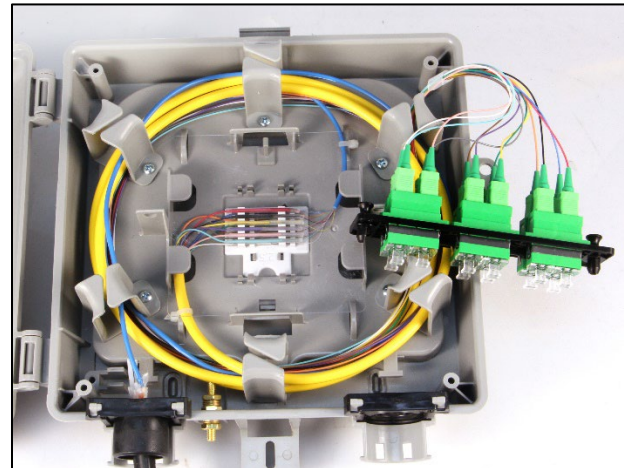

Figure 11
2. Secure buffer tube to top right lance with provided zip-tie (Figure 11)